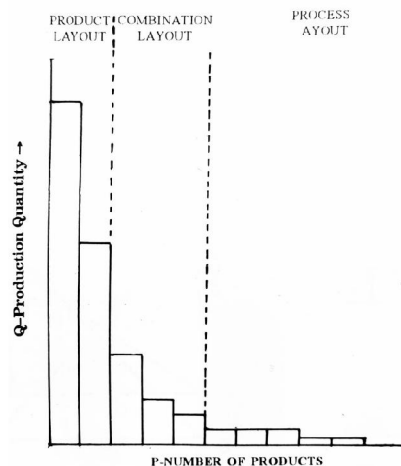

Figure 5.0: P-Q Graph
**V. SELECTION OF PLANT LAYOUT BASED ON PRODUCT VARIETY AND PRODUCTION VOLUME(Figure 5.0).**